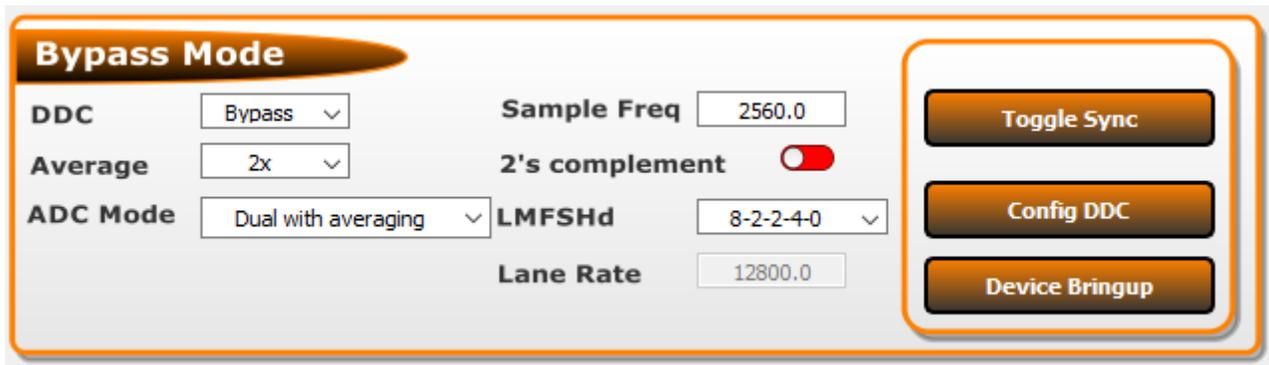

Figure 3-2. Bypass Mode Settings
1. In the bypass mode box of the GUI, ensure that the settings match those shown in Figure 3-2